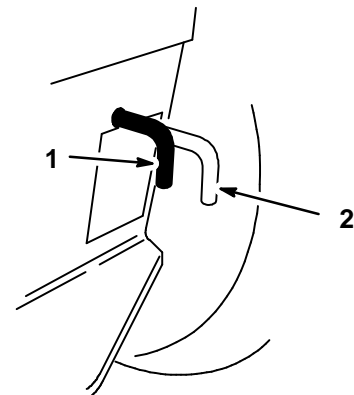

Figure 14
2. Move the drive control rod to the “PUSH” position. This disengages the drive system and allows the wheels to turn freely (Fig. 14).
1. Apply the brake, this moves the drive control rod to “OPERATE” and engages the drive system, or move the drive control rod to the “OPERATE” position (Fig. 14).